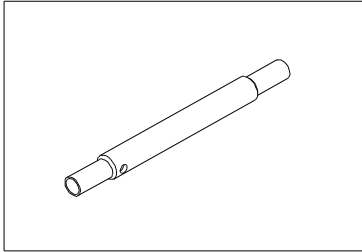

Figure 4-5
G. Install the standpipe into the hopper (Figure 4-5, 4-6).